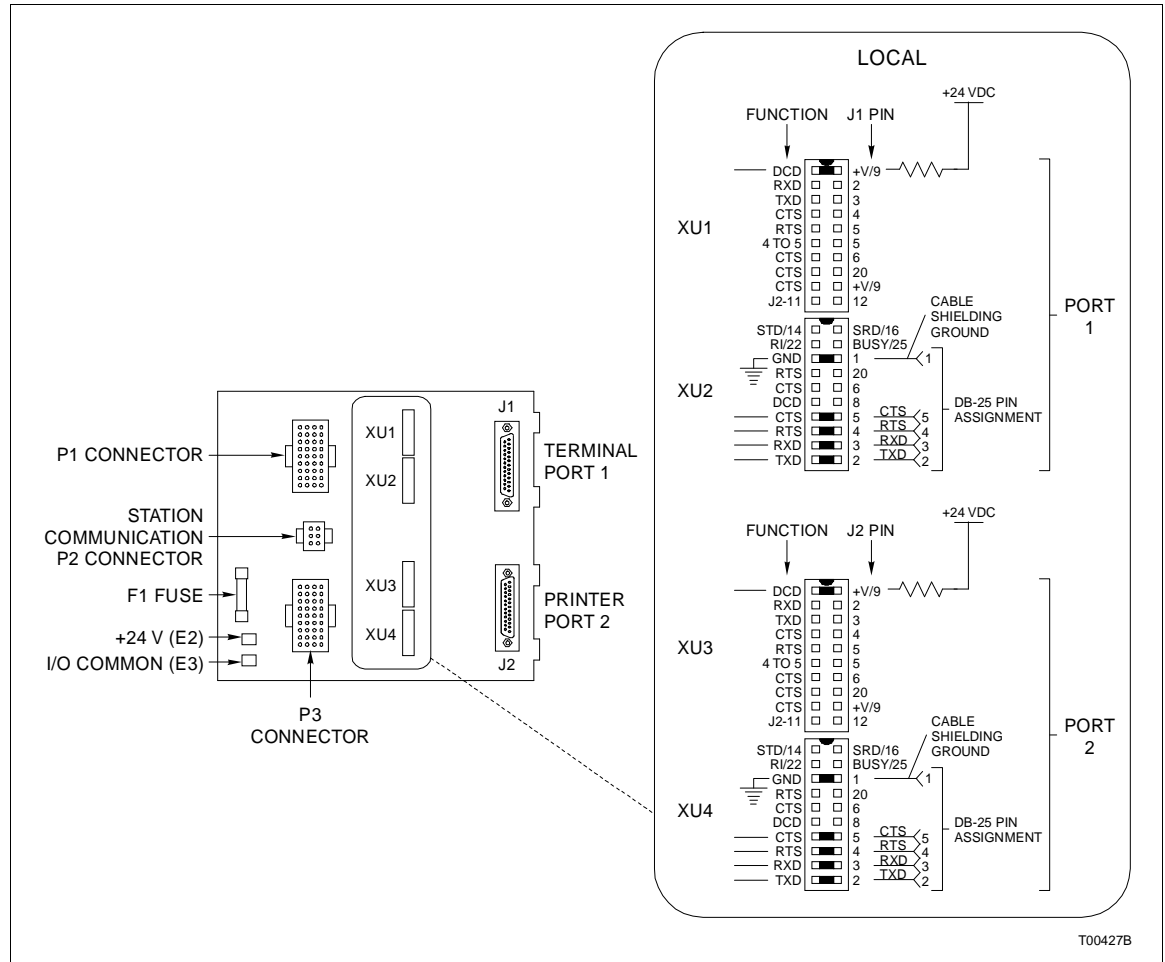
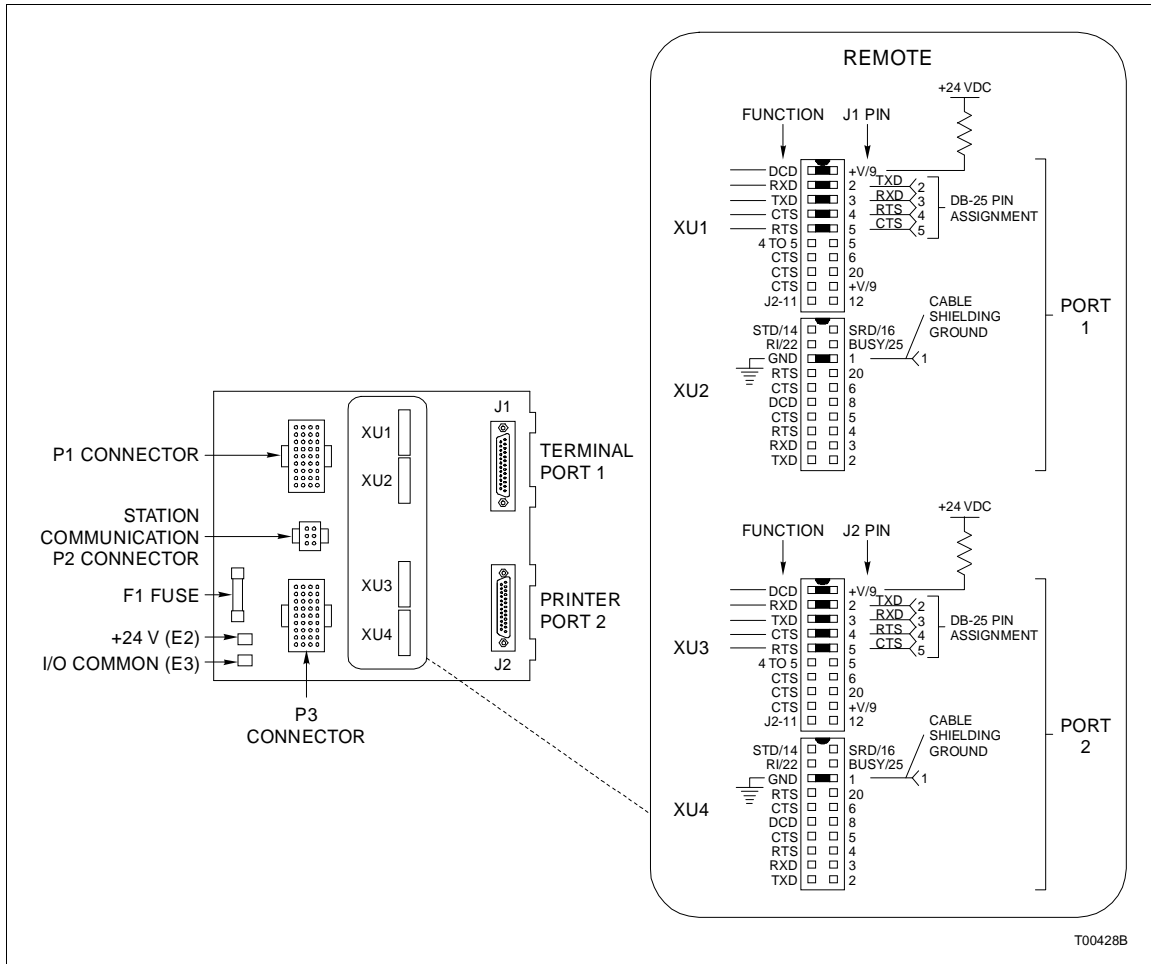

Figure 2-7. Dipshunt Configuration for Direct Connection of Local PPT Module Acting as DTE
Figure 2-8. Dipshunt Configuration for Direct Connection of Remote PPT Module Acting as DCE
2. If connecting a local Plant Loop (DTE) directly to a remote Plant Loop (DCE) via a cable, use the dipshunt settings shown in Figure 2-7 (local) and Figure 2-8 (remote).